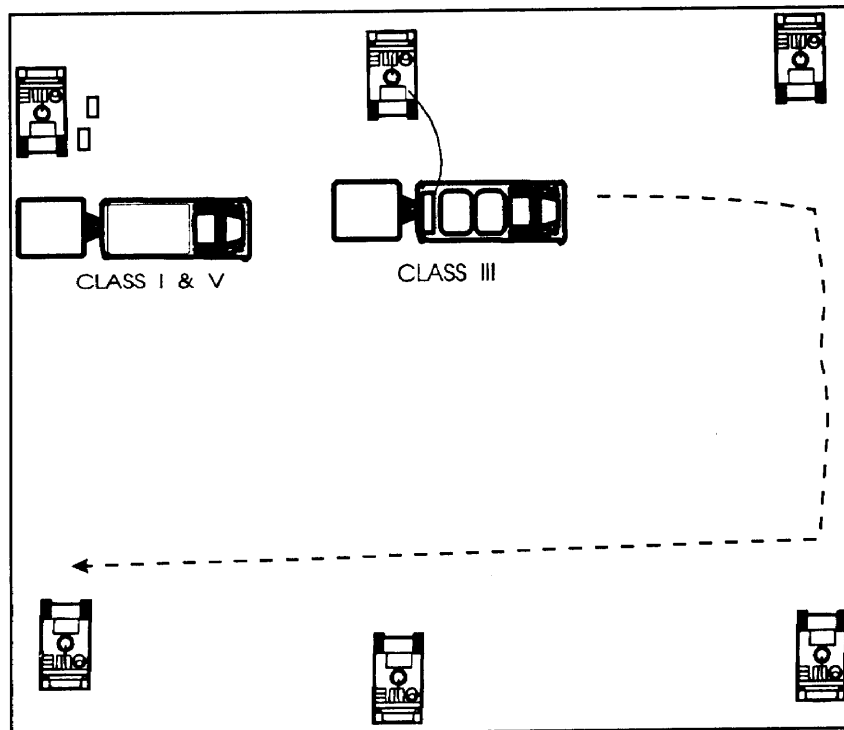

Figure 8-2. Tail-Gate Resupply.
**Tail-Gate Resupply.** The LOGPAC or support squad moves from vehicle to vehicle in the platoon area. Each vehicle in the platoon is resupplied with all required items; water, fuel, food, and ammo. This is the fastest method of resupply. (See figure 8-2.)